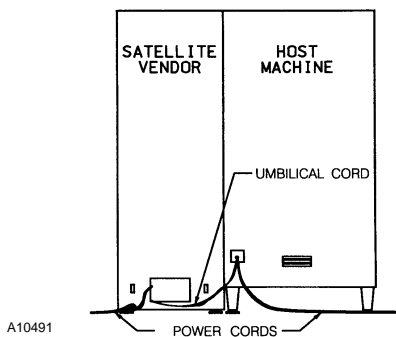

Figure 4. Umbilical Cord
3. Insert the umbilical cord from the Satellite Vendor through the hole in the back of the host machine and secure the plate attached to the umbilical cord. See Figure 4.